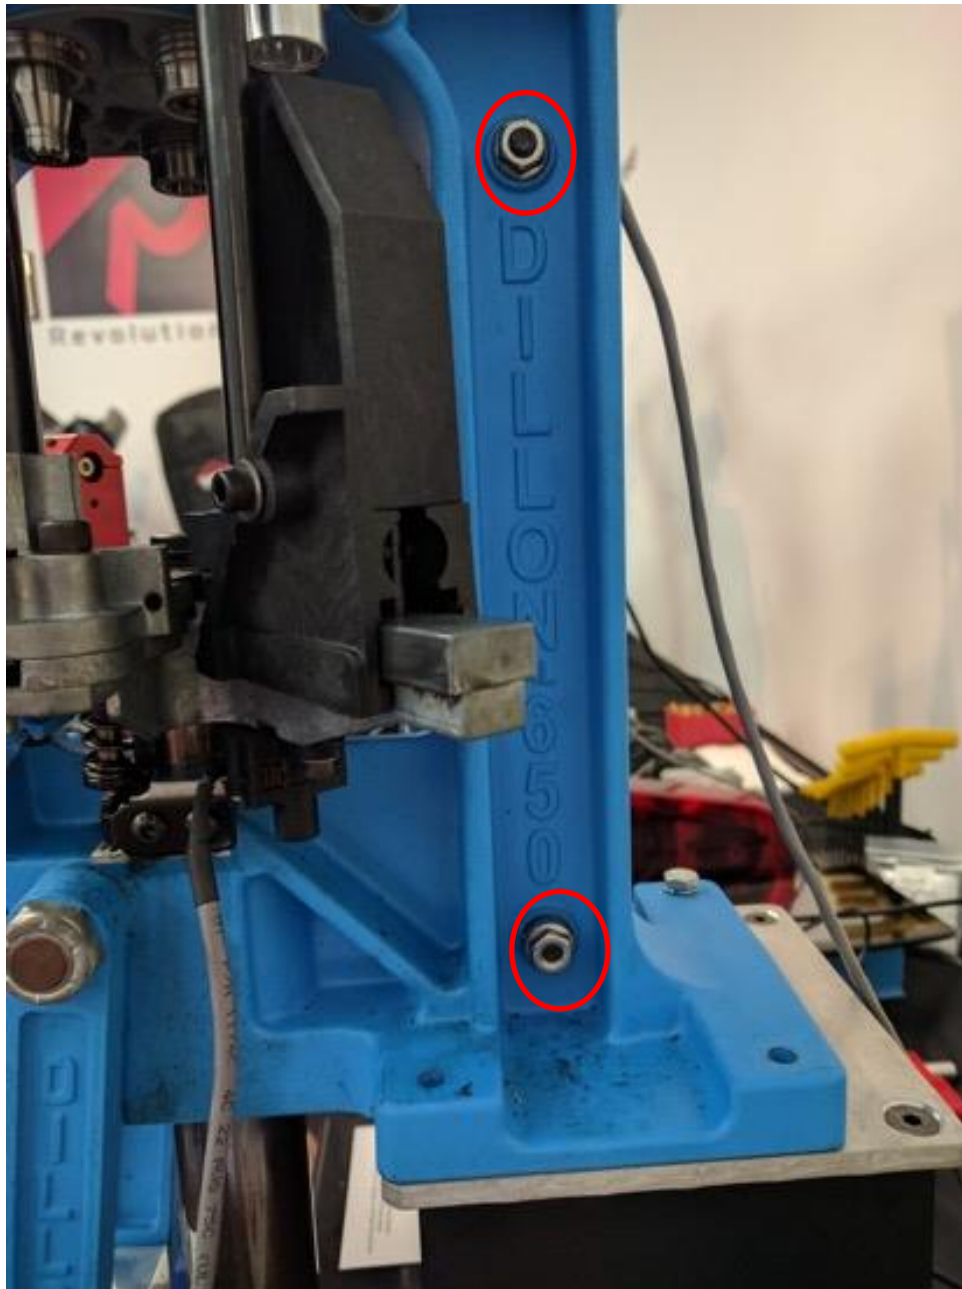

Figure 3: Case Feeder Mounting Bolt Locations
3. The case feeder pole bolts need to be removed to install the BulletSense® mounting bracket. It is recommended to remove the case feeder or have an assistant hold the pole in place so the case feeder doesn't tip over. Carefully remove the case feeder pole bolts with a 3/16" Allen wrench and with a 7/16" socket affixed on the opposite side of the press (see Figures 3 and 4).